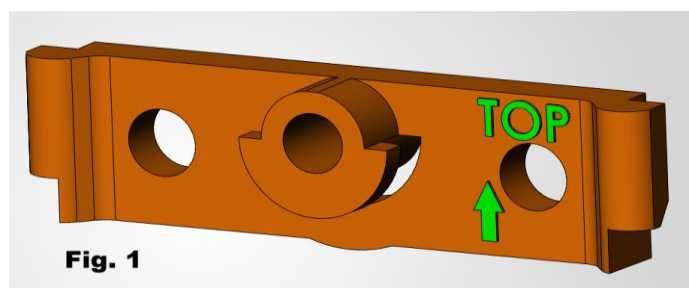

Fig. 1 — Upper bracket: note the "TOP" marking, which indicates the side that must face upwards.
3. Position it correctly: the side marked "TOP" must face upwards (Fig. 1).